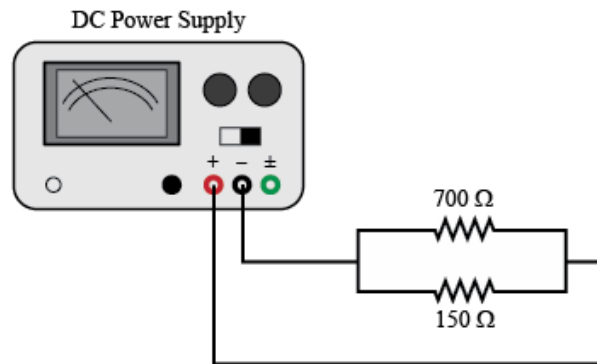

Figure 10
- 3 With the power supply voltage set to zero, connect it to the parallel resistor combination as in Figure 10. Adjust the power supply to 5 volts. Set the multimeter to measure at least 5 volts and use it to measure the voltage difference, ΔV , across the combination and across each resistor. Record the values. Is there any difference between ΔV , ΔV_{700} , and ΔV_{150} ?